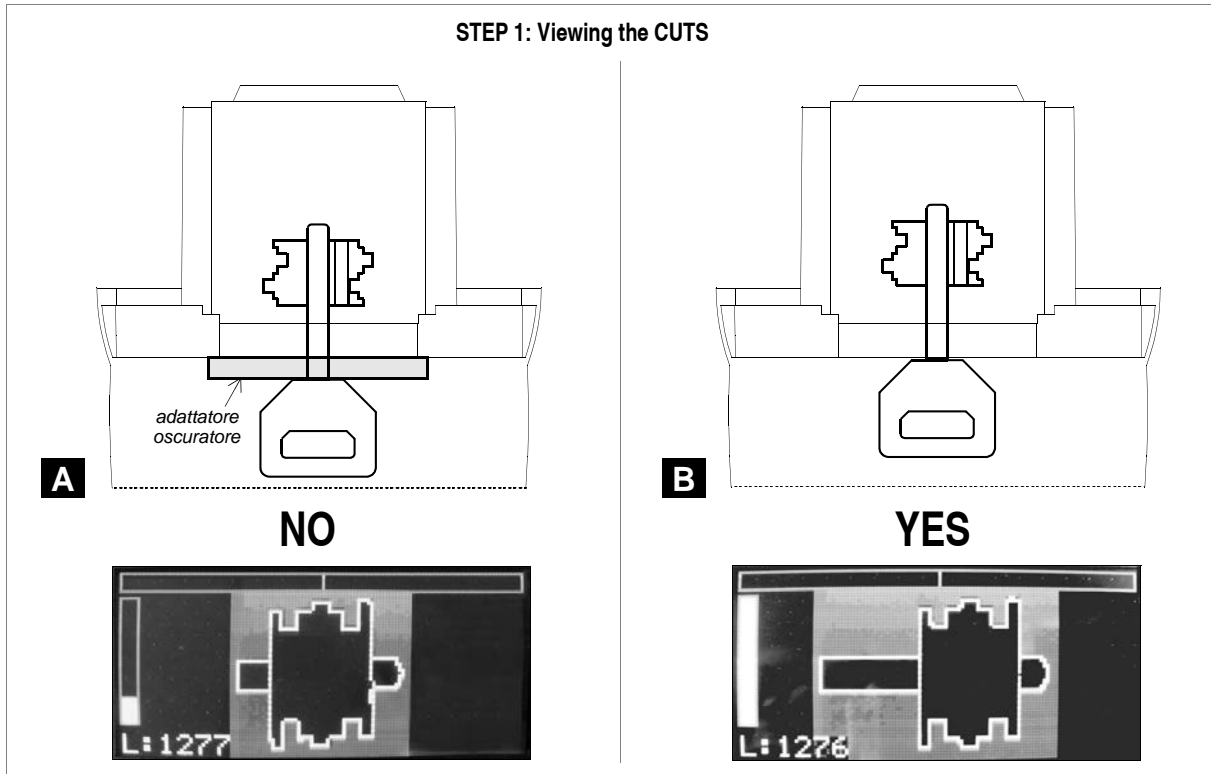

Fig. 29
- 1) STEP 1: fit the key into the clamp without the light shade device and try to view a sufficient amount of stem (fig. 29-B).